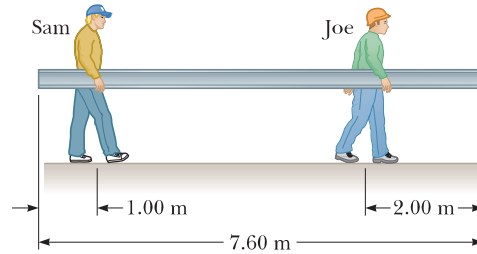

Figure P12.11
- 11.** A uniform beam of length 7.60 m and weight 4.50×10^2 N is carried by two workers, Sam and Joe, as shown in Figure P12.11. Determine the force that each person exerts on the beam.